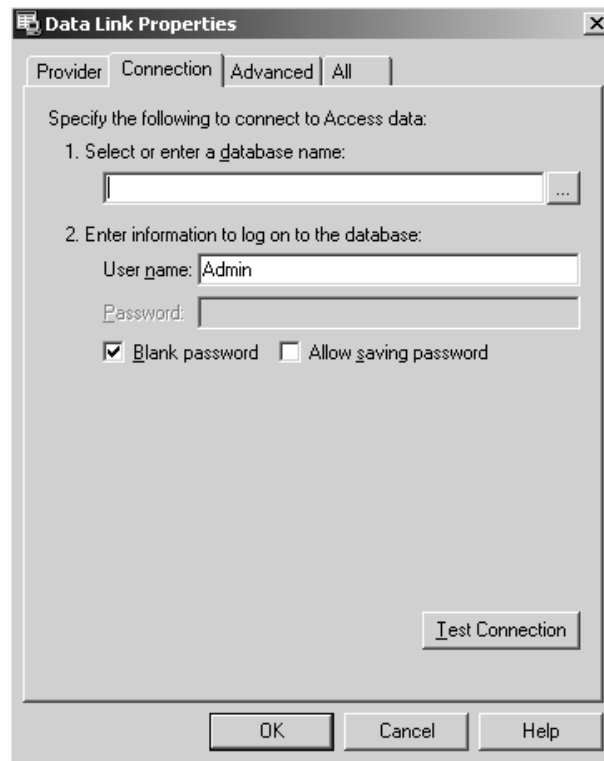

Figure L3.7 - Data Link Properties
4. Click the **Database Login** button and right-click on MS Access Connections. Select **Insert New Connection**. The **Data Link Properties** dialog, shown in Figure L3.7, will appear.
5. Click the **Database Login** button and right-click on MS Access Connections. Select **Insert New Connection**. The **Data Link Properties** dialog, shown in Figure L3.7, will appear.